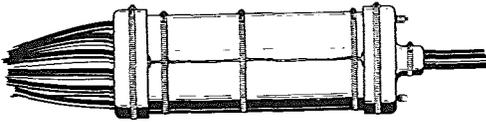

Figure 30. Completed Closure Assembly
- 7.19 Fasten a hose clamp around each end cap in the recess provided for it. (Figure 30)